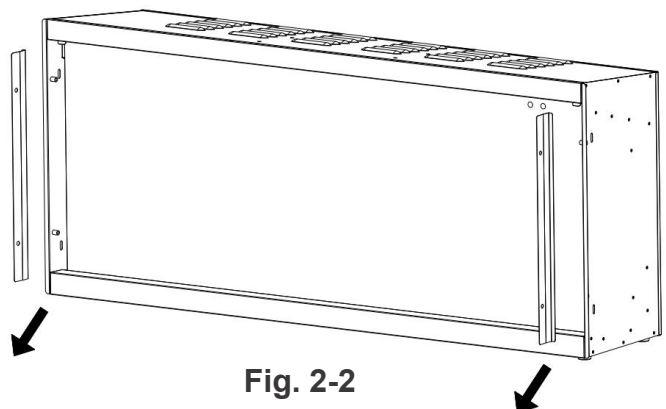
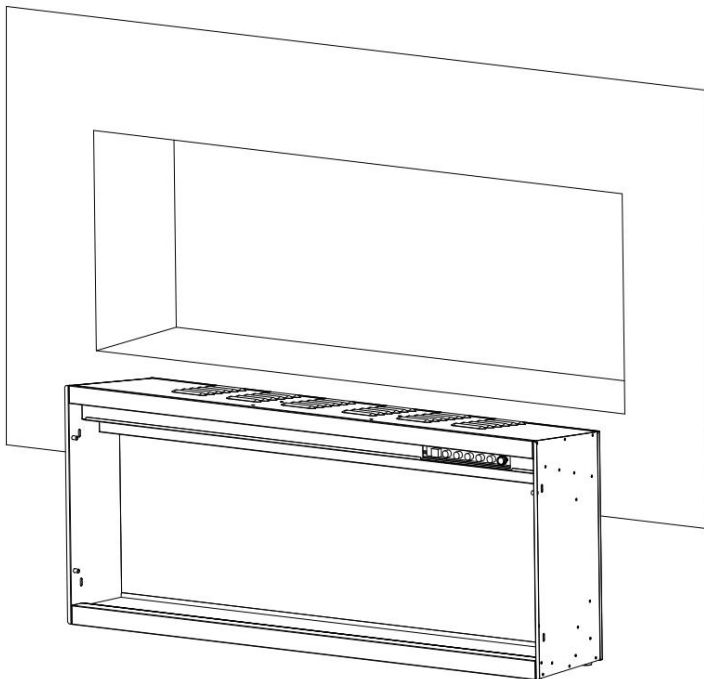

Fig. 2-2
Fig. 3-1
- B. Carefully take the metal bracket(s) away from the appliance. Place it face down on a soft, non-abrasive surface. (Fig. 2-2)
B. Insert the fireplace into the rough-in frame and then secure it by installing 4 wood screws (**B**) through the holes (Fig. 3-1, Fig 2-2).